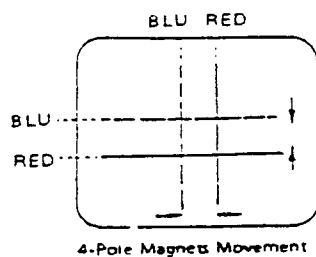

Fig 4-3
- (4) Adjust two tabs of the 4-Pole Magnets to change the angle them and superimpose red and blue vertical lines in the center area of the picture screen. (See Fig 4-3)
- (5) Turn both tabs at the same time keeping their angles constant to superimpose red and blue horizontal lines at the center of the screen. (See Fig 4-3)